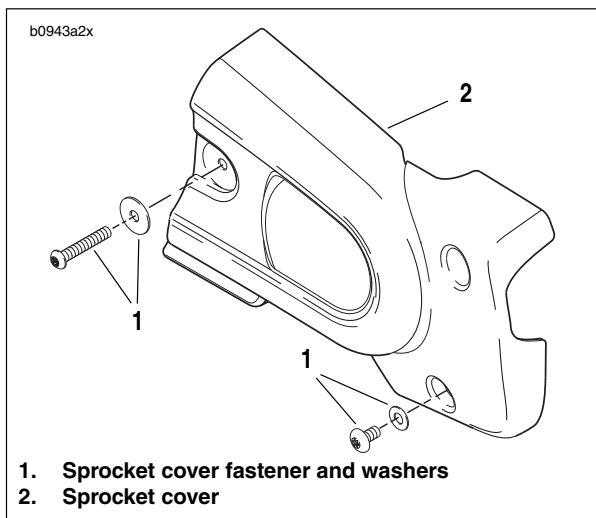

Figure 6-40. Sprocket Cover
4. See Figure 6-40. Remove front sprocket cover (2) by removing fasteners. See 2.35 SPROCKET COVER.
6. Tighten rear axle pinch fastener (2) to 40-45 ft-lbs (54-61 Nm).
7. See Figure 6-40. Install front sprocket cover. See 2.35 SPROCKET COVER.